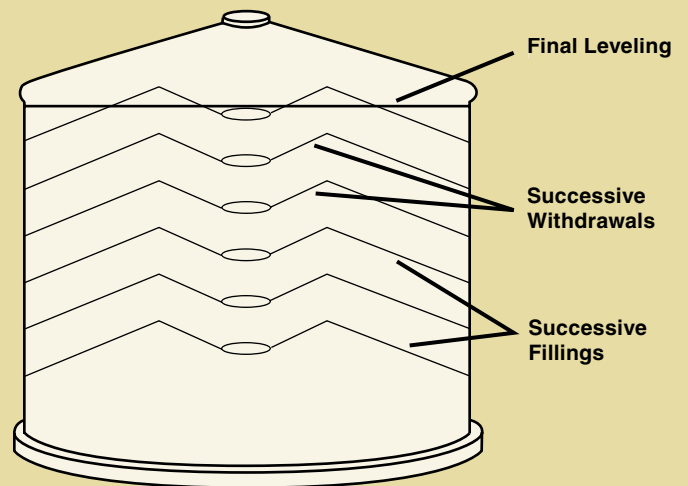

Figure 2. Coring a bin of grain to redistribute the trash and fines.
- A good management practice in bins equipped with center unloading augers is to periodically unload some of the grain to remove any trash and fines accumulated in the center of the bin. This is often referred to as "coring." During filling, run the unloading auger at least daily or more often if needed to remove the peaked grain (Figure 2). The goal is to form an inverted cone with a diameter in the range of 5 to 10 feet. The grain that is removed can be mixed with other grain and put back into the bin.